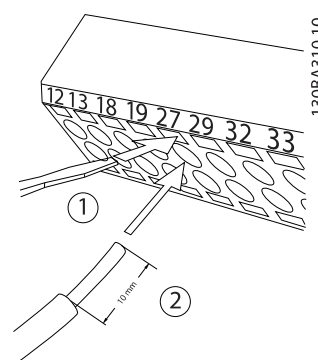

Figure 2.12 Connecting Control Wiring
1. Open the contact by inserting a small screwdriver into the slot above or below the contact, as shown in *Figure 2.12*.